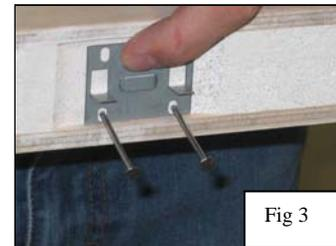

Fig 3
4. Position the rectangular half of the glazing clip with the tabs down, being sure it is centered within the door thickness. Secure it using two of the 1-9/16" long 4d nails inserted through the holes below the tabs (Fig 3) Where nails are hand driven into blocking, pre-drilling with a 5/64" bit is required. **Caution:** These clips are directional; insure correct positioning of the clips before nailing them into place. **Note:** Clips are required in all of the machined pockets.